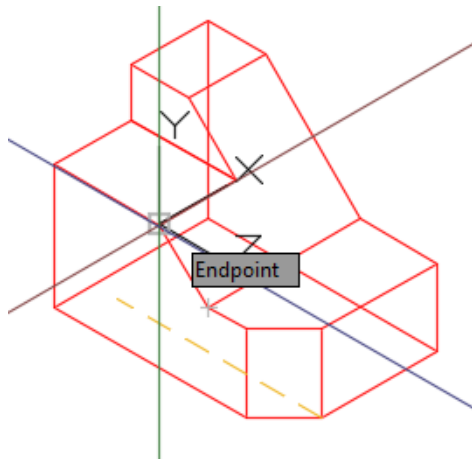

Figure Step 10A
Step 10 For the third point, select the end of the inclined line on the top. This is the positive Y axis. Your model should now appear as shown in the figure. (Figure Step 10A and 10B)